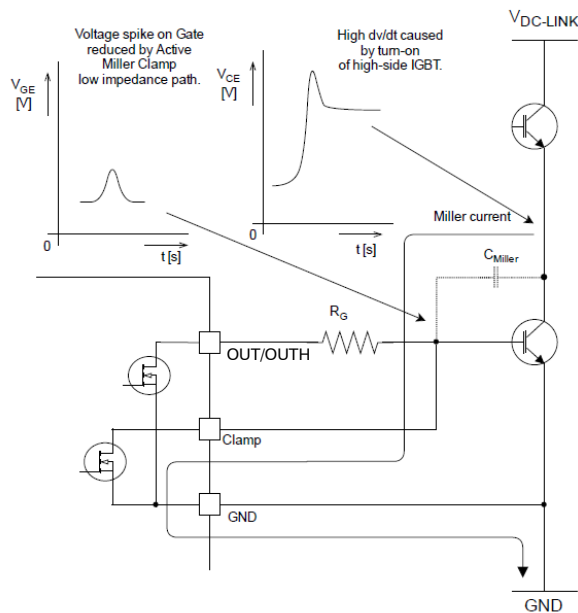

Figure 28. Current Path with Miller Clamp Protection
- In Unipolar power supply the driver is typically supplied with a positive voltage of 15 V at V_{DD2} . Unwanted turn-on caused by the internal IGBT/MOSFET Miller capacitance could be prevented by Active Miller Clamp function (variant A). CLAMP output should be directly connected to IGBT/MOSFET gate (Figure 28)